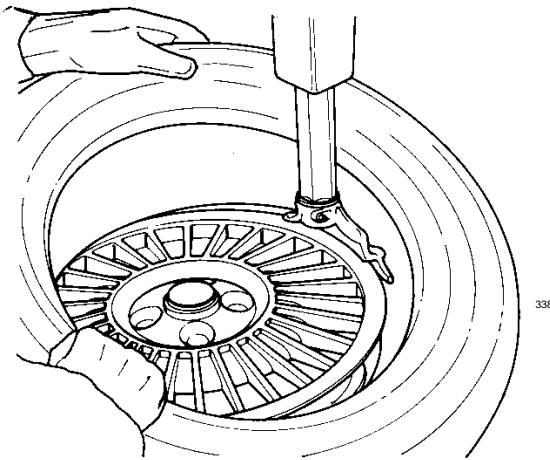

Fig.20
B. Lock the rim to the turntable and rotate it so that the valve is at the 2 o'clock position. Place the tire to be mounted on the rim. Swing the mount/demount arm in so that the mount/demount head is in the working position. (Fig. 20) Engage the lower bead OVER the mount/demount head and UNDER the mounting finger of the mount/demount head (Fig.20). Turn the wheel clockwise (right pedal down) while simultaneously pushing the tire down into the drop center, opposite to the mount/demount head.